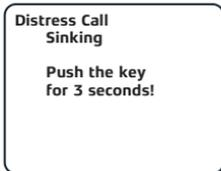

Figure 11
4. Press and hold the **Distress** button. The display will flash and the radio will beep as it counts down from 3 to 1 (fig 11).